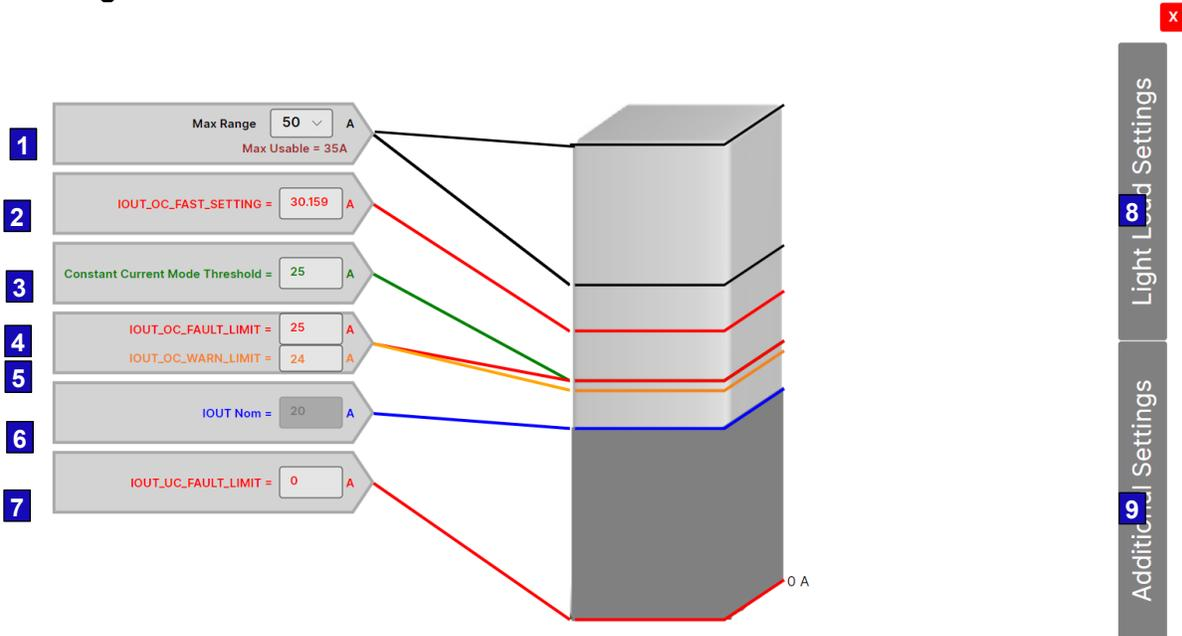

Figure 31. IOUT Window
**Table 30. Figure 31 Callouts**